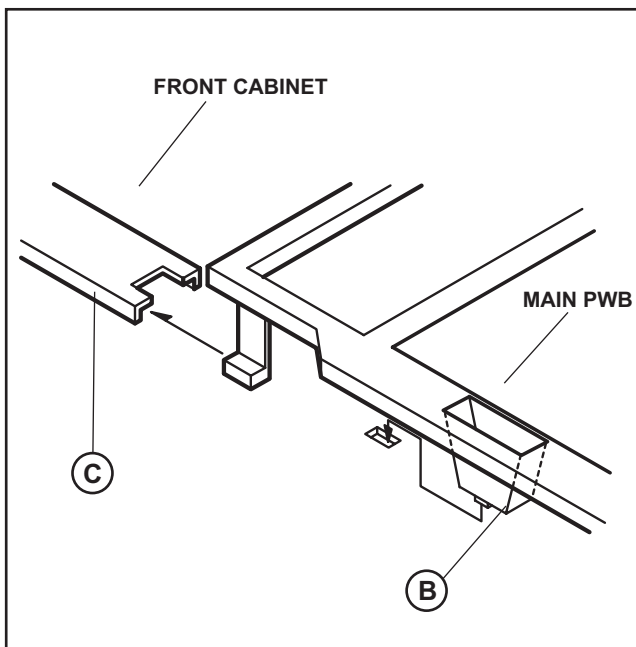
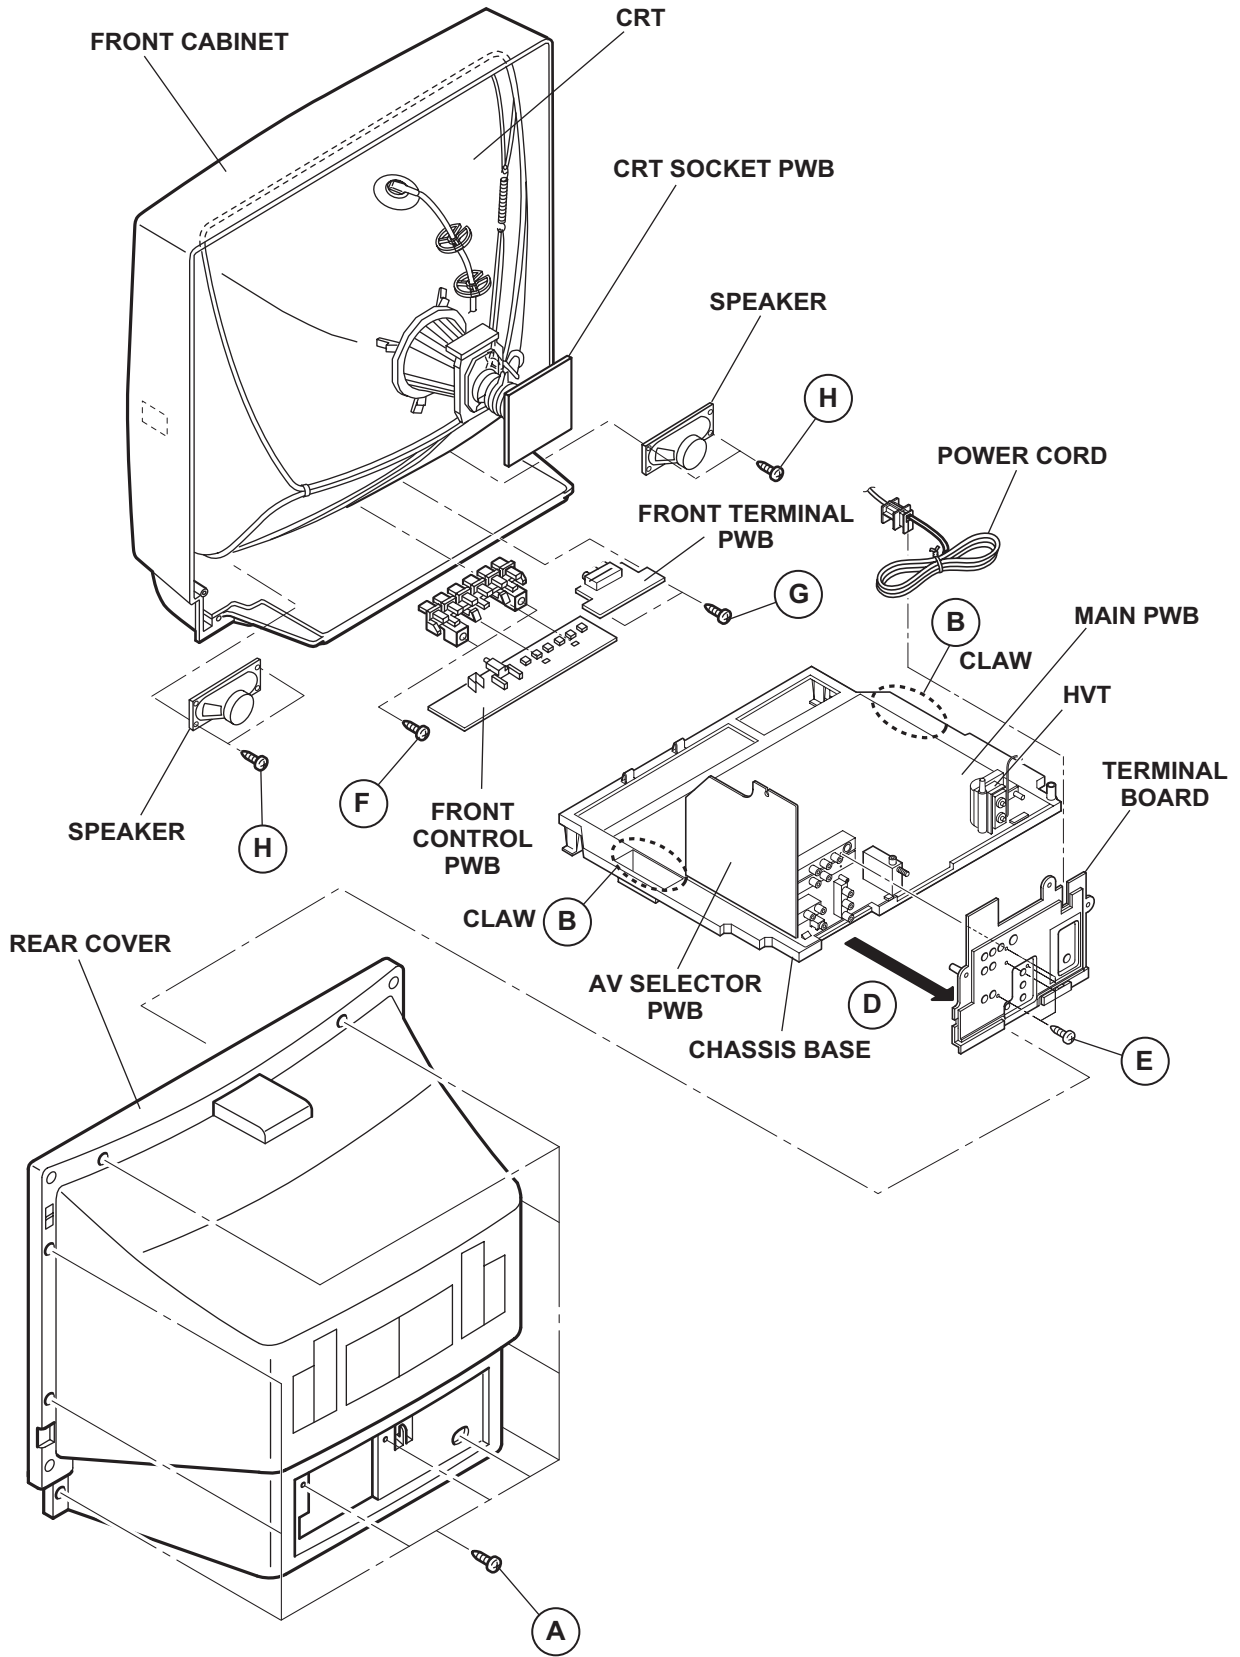

Fig.1
Fig.2
- (1) Remove the 11 screws [A], as shown in Fig.1.
- (2) Remove the rear cover toward you.
- (1) Remove the 4 screws [E] as shown in Fig.2.
- (2) When you pull out the TERMINAL BOARD, it can be removed.
- (1) Slightly raise the both sides of the CHASSIS BASE by hand, and remove the 2 claws [B] (Fig.1 and Fig.2) under the both sides of the chassis from the chassis rail.
- (2) Draw the CHASSIS BASE backward along the chassis rail [C] in the arrow direction [D] as shown in Fig.1 and Fig.2. (If necessary, detach the wire clamp, connector's etc.)
- (1) Remove the 2 screws [F] attached the FRONT CONTROL PWB with the front cabinet as shown in Fig.2.
- (2) Then remove the FRONT CONTROL PWB.
- (1) Remove the 2 screws [G], as shown in Fig.2.
- (2) Then remove the FRONT AV IN PWB.
- (1) Remove the 2 screws [H], as shown in Fig.2.
- (2) Follow the same steps when removing the other hand speaker.